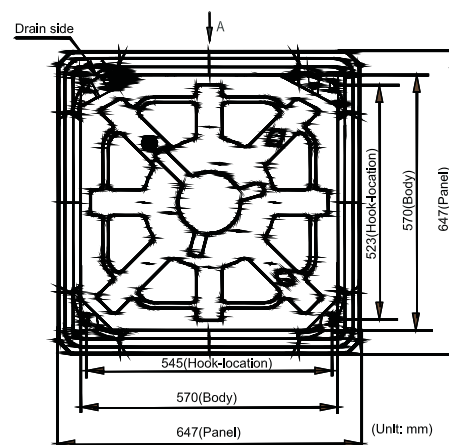

Fig.15
- a. Please cut a quadrangular hole of 600×600mm in the ceiling according to the shape of the installation paper board. (Refer to Fig.15 & 16)